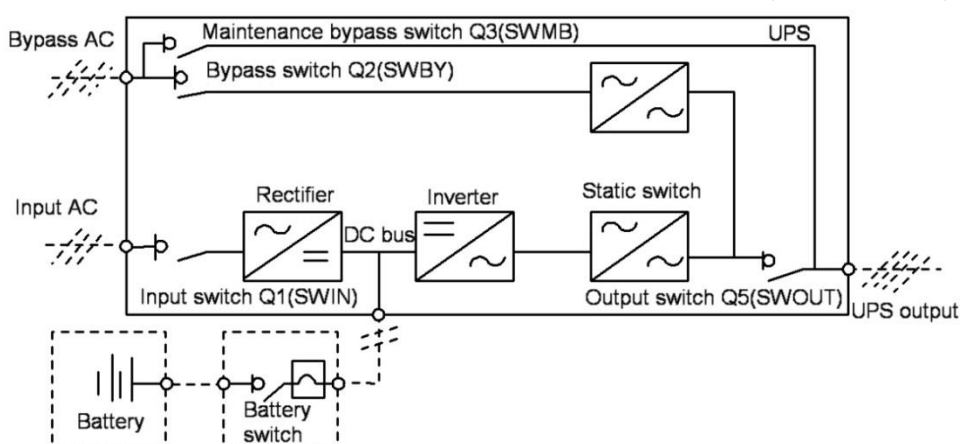

Figure 1-2 UPS switch
1. With the intelligent control for the "static switch" which consist of the controlled electronic switching circuit(see Figure 1-2). The loads can be powered by both the inverter output and the bypass input. Under normal conditions, the loads are powered by the inverter whose static switch is closed. In case of overload (beyond the overload time limit) or fault with the inverter, the static switch will automatically switch to the bypass circuit.
Figure 1-2 is a block chart of the UPS standalone machine with “separated bypass power”. In the separated bypass, the static bypass circuit and the maintenance bypass circuit both have an independent bypass power. Without a separated bypass power, make a short circuit between the input of the bypass switch Q2 and the input of the bypass switch Q1 (for standard machines, there is expected to be a short circuit here) so that the bypass input and the rectifier input use the same AC.